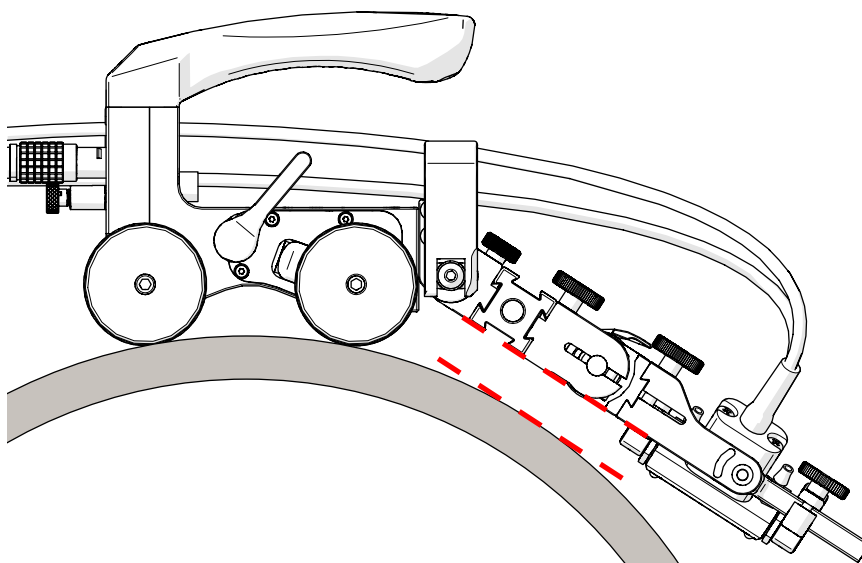

Fig. 81 - Parallel with scan surface tangent
8. Adjust the pivot nose (Fig. 80-1) angle to align the frame bar (Fig. 80-2) parallel with the tangent of the scan surface (Fig. 81).
10. Release the brake to begin the inspection process (Fig. 81).